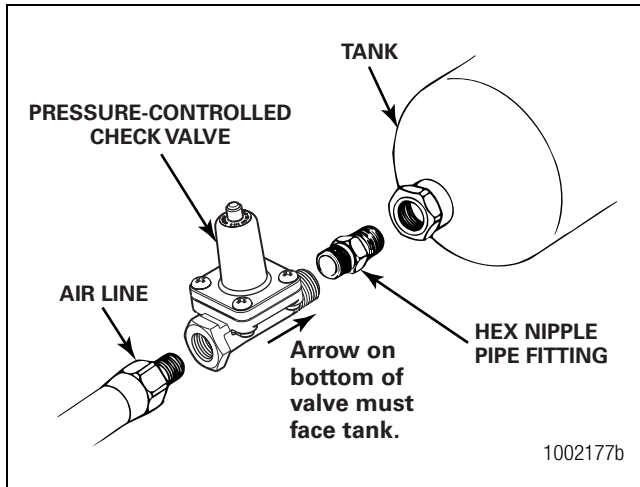

Figure 3.17
1. Before replacing, look at the arrow on this valve. You must install the valve so that the arrow faces the tank on which it is installed. Figure 3.17.